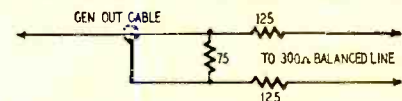

Fig. 8—Balun for impedance matching.
- Fig. 8—Defective horizontal AFC tube, or horizontal discriminator transformer.
Some sweep generators have a 300-ohm balanced output, while others have a 75-ohm unbalanced output. Since conventional twin lead has a 300-ohm balanced impedance, the operator must use a balun to drive a twin lead from a 75-ohm unbalanced generator. A suitable balun for this purpose is shown in Fig. 8. The principle of the balun is to provide a resistive pad which has approximately 75 ohms impedance looking into the pad from the generator end, and approximately 300 ohms impedance looking into the pad from the line end. END